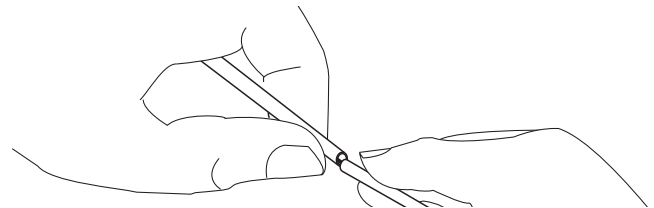

Figure 14
**Step 3:** Carefully flex the tube to break it at the score point (Figure 14).